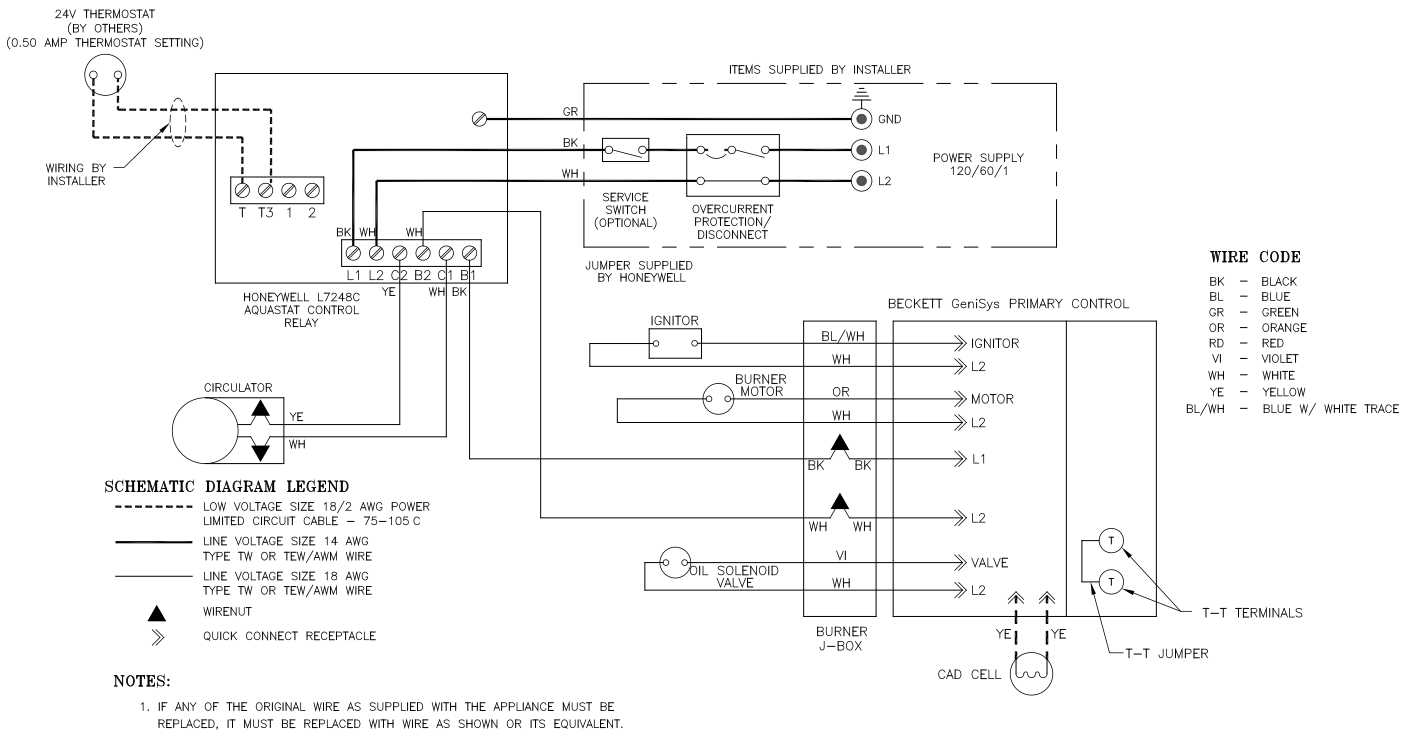
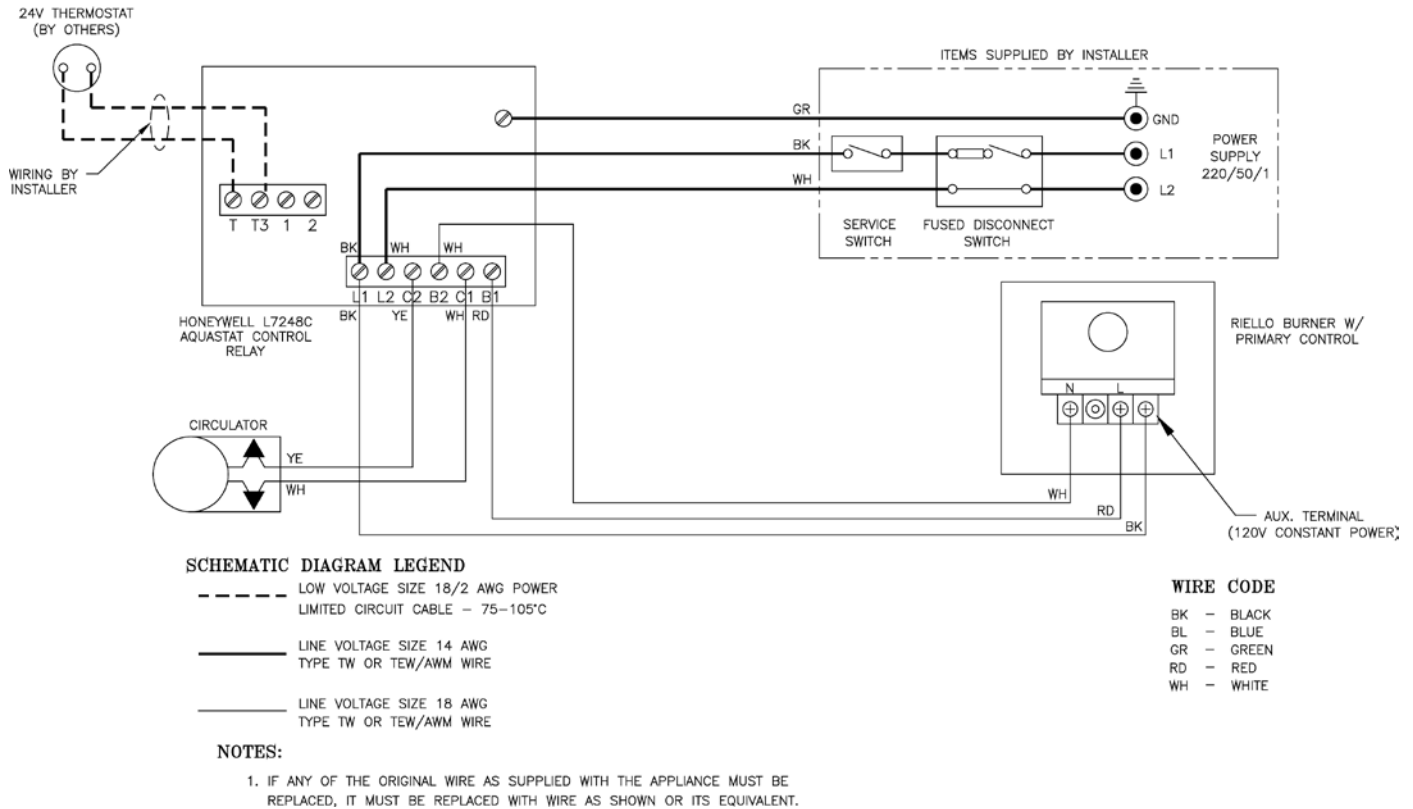

Figure 16: AP-U Boiler Wiring Less Tankless, Single Circulator w/Beckett Burner
Figure 16A: AP-U Boiler Wiring Less Tankless, Single Circulator w/Riello Burner
3. Wiring should conform to Figure 16 and/or 17.
3. Use armored cable (BX) over all exposed line voltage wiring.
5. Single Zone System – Refer to Figure 16 or 17 for the electrical diagram for this type of system. Connect the system circulator wire leads to the proper locations on the Aquastat control, L7224A/L7248A. See Figure 16A or 17A. Connect the thermostat to the 'T-T' terminals on the L7224A/L7248A control. Set thermostat heat anticipator settings to 0.60 amps.